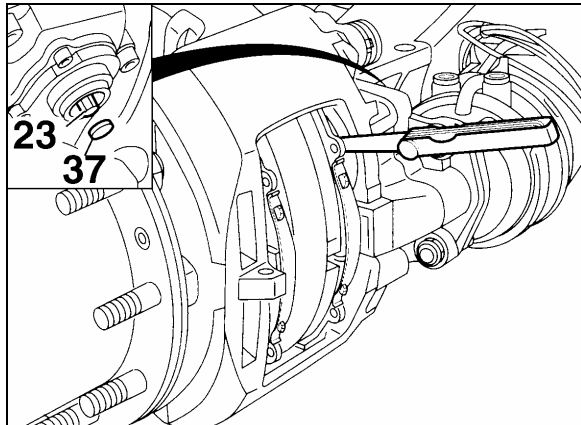

FIGURE 37: RUNNING CLEARANCE 12116
- a) Insert a feeler gauge 0.028 inch (0.7 mm thickness) between tappet and pad backplate (Fig. 37). Turn adjuster pinion clockwise until 0.028 inch (0.7 mm) clearance is achieved. Replace cap (37) (Prévost # 641313).
- b) To ensure a constant running clearance between the rotor and pads, the brake is equipped with an automatic adjuster unit. When the pads and rotor wear, the running clearance between the pads and rotor increases. The adjuster (23, Fig. 37) and